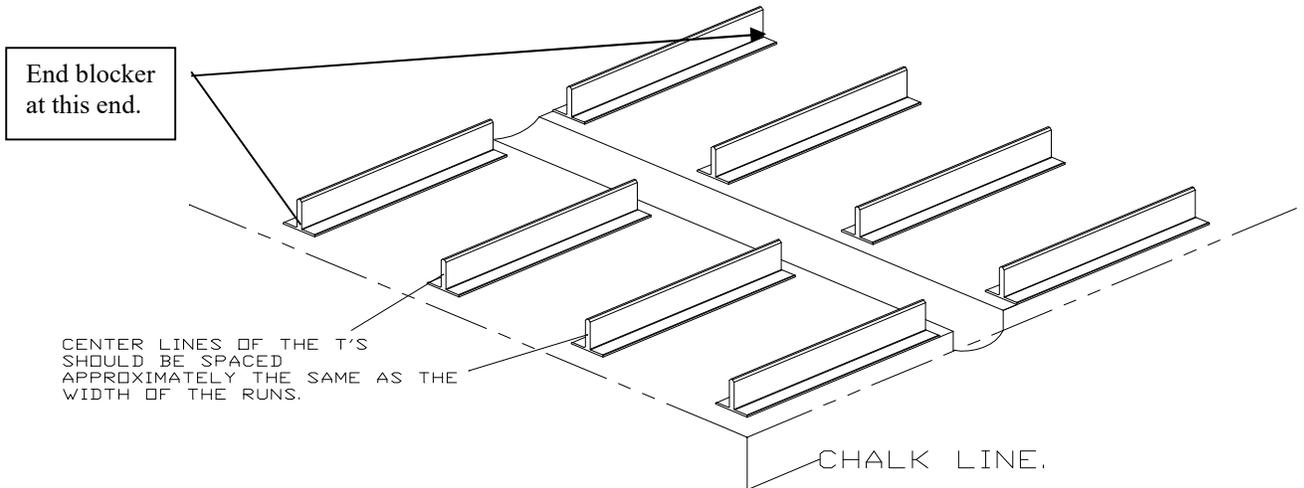

Figure 6
1. Refer to the floor plan and select a starting point for assembling the runs (preferably on the end of a bank of runs at the intersection of the back panel and outside division panel), which is best for your application. Once selected, identify the exact location of the outside corner of that run. Mark both sides of the corner on the floor with a chalk line (or other preferred method) as shown in Figure 6. **Important:** Make sure that the two lines are perpendicular and in the exact final location desired for the corner of your kennel.
- Layout the “Sanislope T” sections approximately where they will lie on the final floor plan as shown in Figure 6. **Note: be sure that the end blocker that was installed in step 2 is at the outside or gate end of the run.**